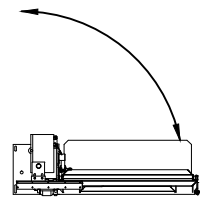

Figure 5
- Step 2. Rotate the gate 90° to parallel with the rear door of the vehicle. (Figure 5)